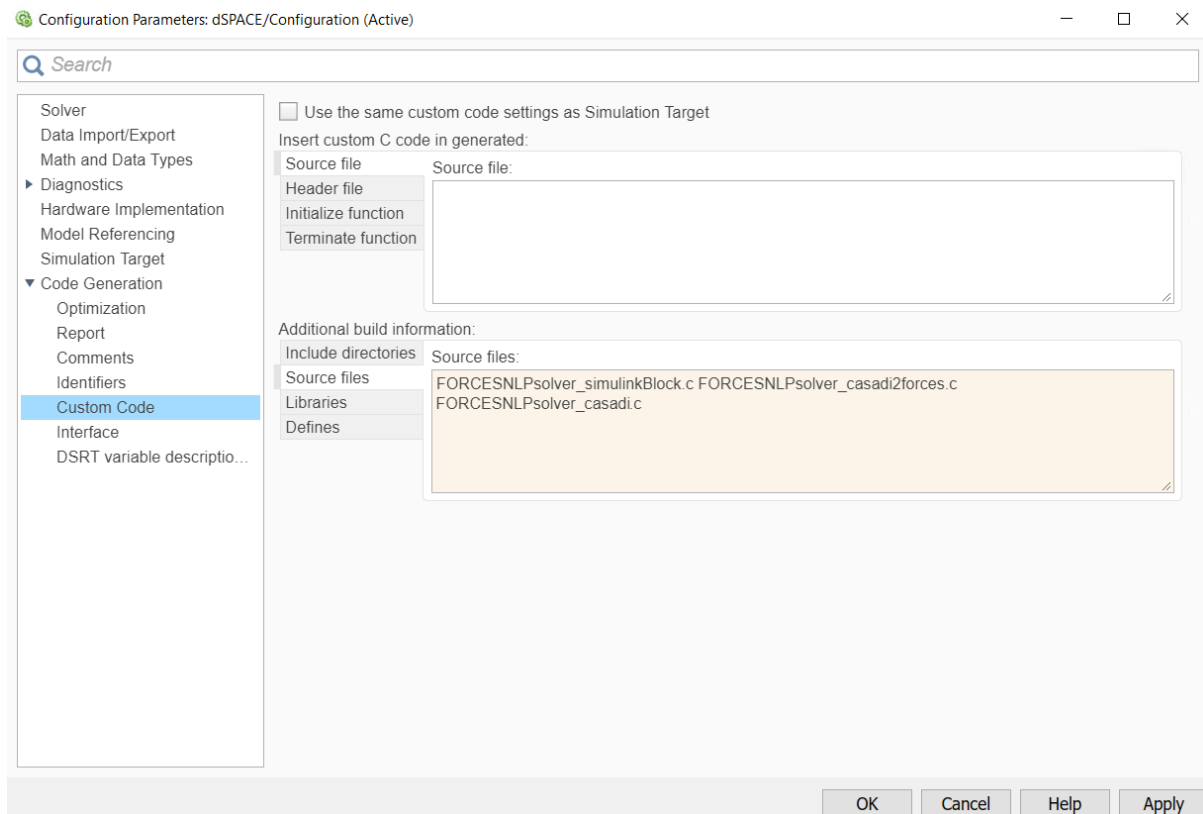

Figure 13.40: Add the source files used for the code generation.
11) In the “Code Generation/Custom Code” tab, add the source files (see Figure 13.40):